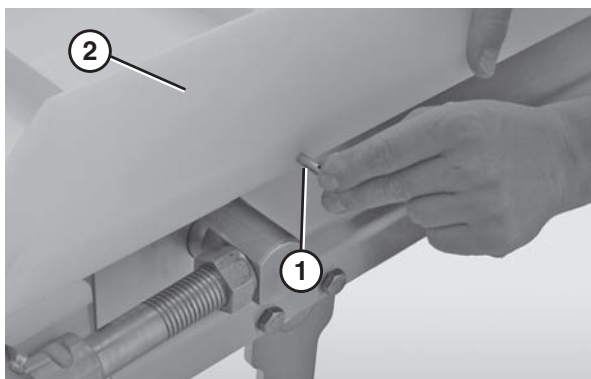

Figure 45
1. Remove the pull pins (**Figure 45, item 1**) that connect the guide (**Figure 45, item 2**) to the frame.